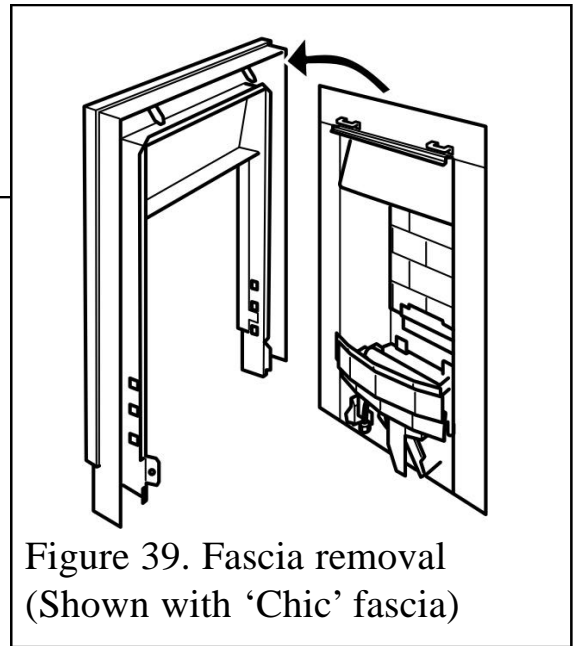

Figure 39. Fascia removal (Shown with 'Chic' fascia)
4. **Make sure that the control linking bar has been detached (See point 2).** Carefully lift the fascia unit upward to clear the upper retaining brackets on the hotbox (See figure 39). Pull the fascia clear and place carefully aside.